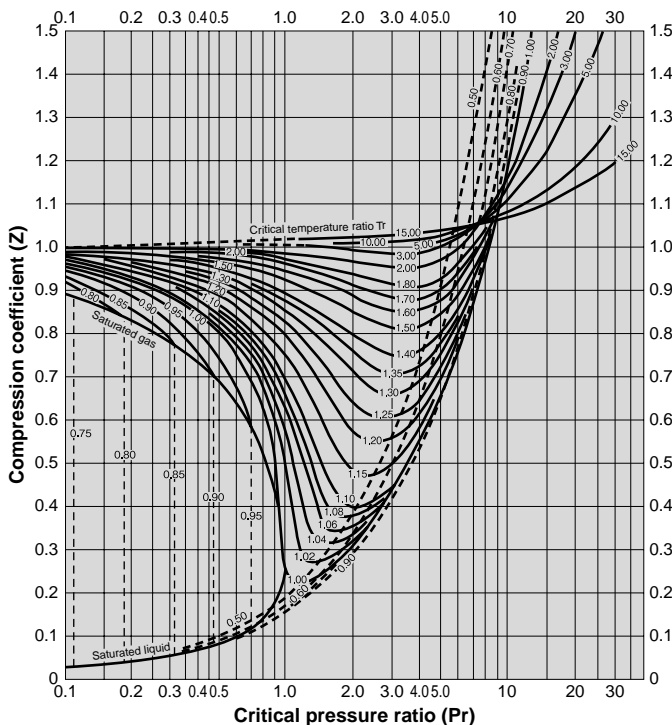

Fig. 3 Compression coefficient
(2) If not measuring certified coefficient of discharge, calculate certified capacity using the value of K_{dr}' in Fig. 3 below instead of K_{dr} in (1). For full bore type safety valve, set K_{dr} = 0.777.